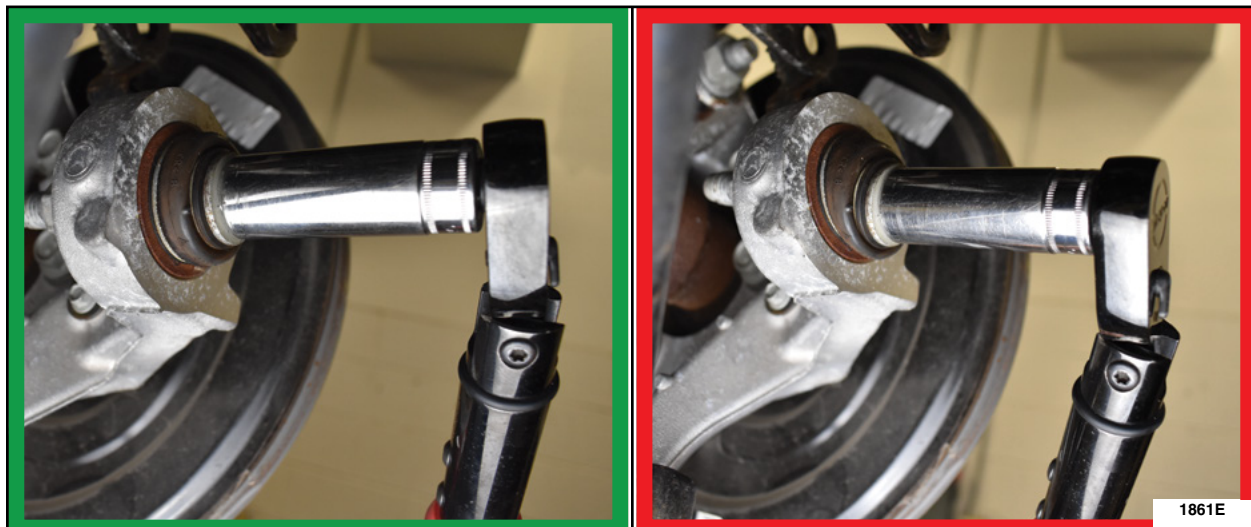

FIGURE 6
9. Set a torque wrench to 11 lb.ft (15 Nm). Apply torque to the toe link to wheel knuckle bolt while keeping the ball joint straight. See Figure 6. Did the ball joint rotate before the torque wrench actuated?